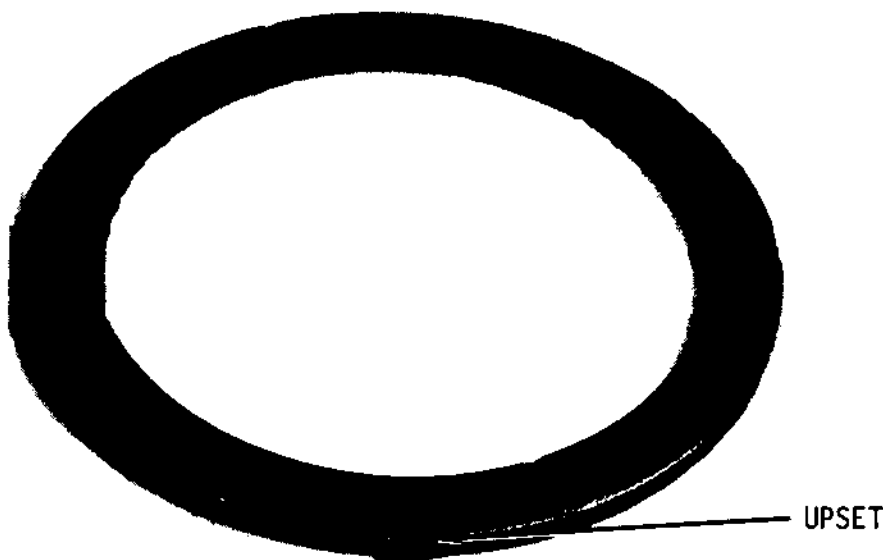
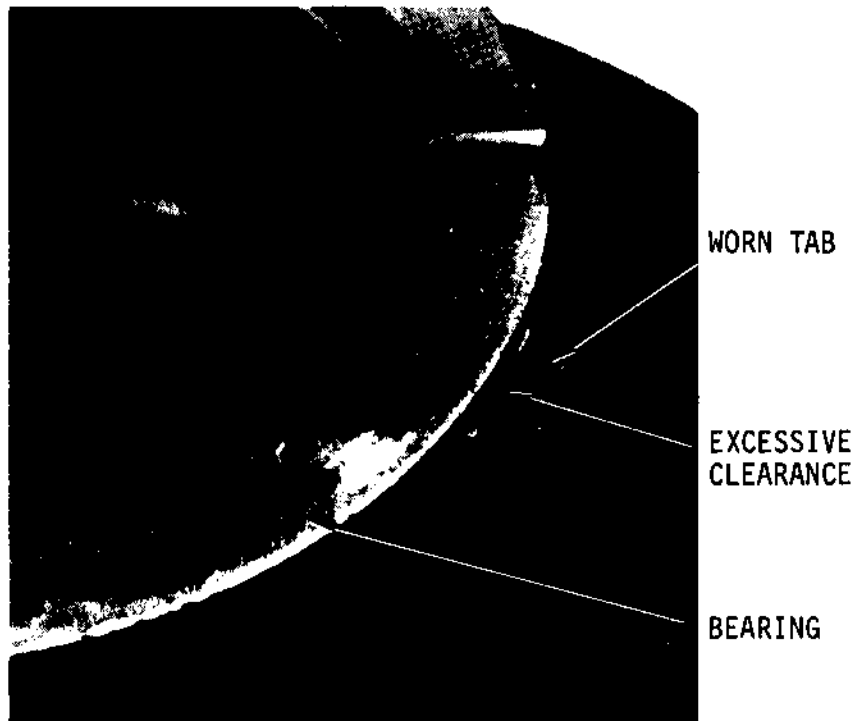

FIGURE 1-New Style Thrust Bearing
FIGURE 2
Certain Model "R" compressors may exhibit wear due to rotating thrust bearings. A new style thrust bearing (Figure 1) eliminates this possibility and should be used in all replacement situations. Compressors with serial numbers prior to May, 1976 (6E) and compressors rebuilt in the field prior to October 10, 1979 are prone to this problem. If excessive wear is encountered, it will be necessary to follow a repair procedure. The procedure listed below explains how to identify excessive wear and rectify the problem. This procedure should be initiated only during a routine compressor teardown inspection or compressor rebuild.
2. If the tabs are excessively worn (Figure 2) it will be necessary to stake the bearings in place. Excessive wear can be identified by placing a new style thrust bearing (upset in O.D., Figure 1) in the housing and bearing head and rotating it 360°. If the bearing can be rotated freely without the thrust bearing upset positively engaging one of the four retaining tabs, excessive wear is indicated.